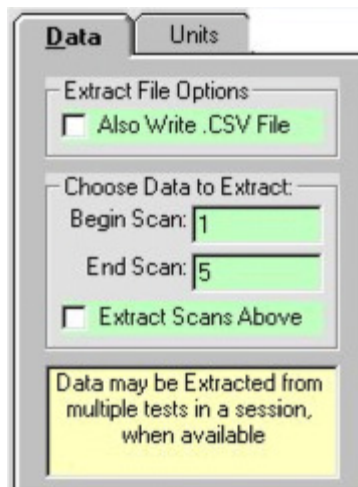

Figure 3.20
- The **Data** tab (figure 3.20) allows control of which scans from the test will be extracted. By default the fields on this tab will be set to extract all data points (first through last). If a subset of the data is required, the **Begin Scan** and/or **End Scan** data points may be changed to reflect the subset to be extracted. Click the **Extract Scans Above** check box to extract the indicated data sets.
The .csv format option also appears in the *Data* tab shown in figure 3.20 of the **Extract** window.